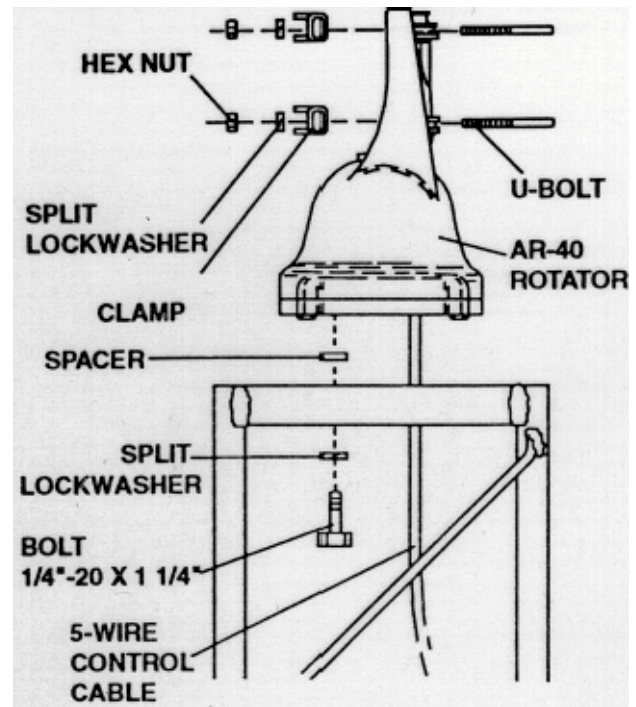

Figure 5
Top of tower installation is similar to mast mounting. (See Figure 5) Spacer washers must be used between the rotator bottom and tower plate. This allows the rotator housing bolt heads to clear the tower plate. The tower plate must be drilled in four (4) places using the template provided with this manual, unless already pre-drilled. A large hole must also be drilled or cut for control cable